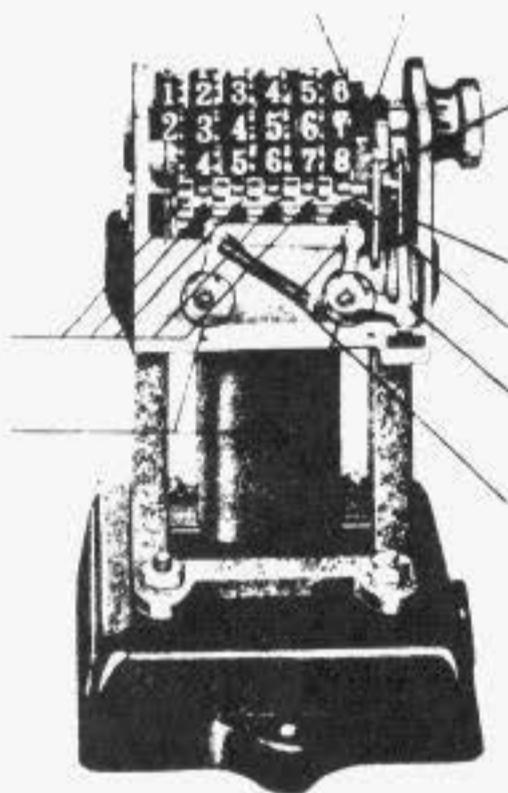

Figure 1
11.13 Apply sparingly with a tooth pick to the points indicated by arrows on Figure 1.